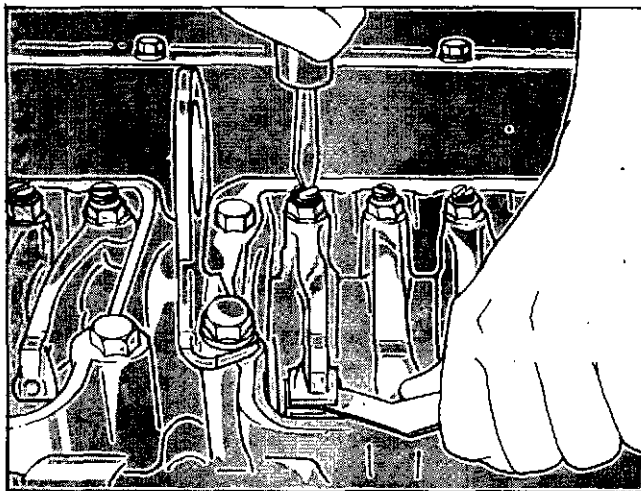

Fig. 14-74 (OM1055L). Adjust The Valves.
2. Put a feeler gauge between the rocker lever and the contact surface of the crosshead, Fig. 14-74. See Table 14 to find the correct thickness of the feeler gauge.